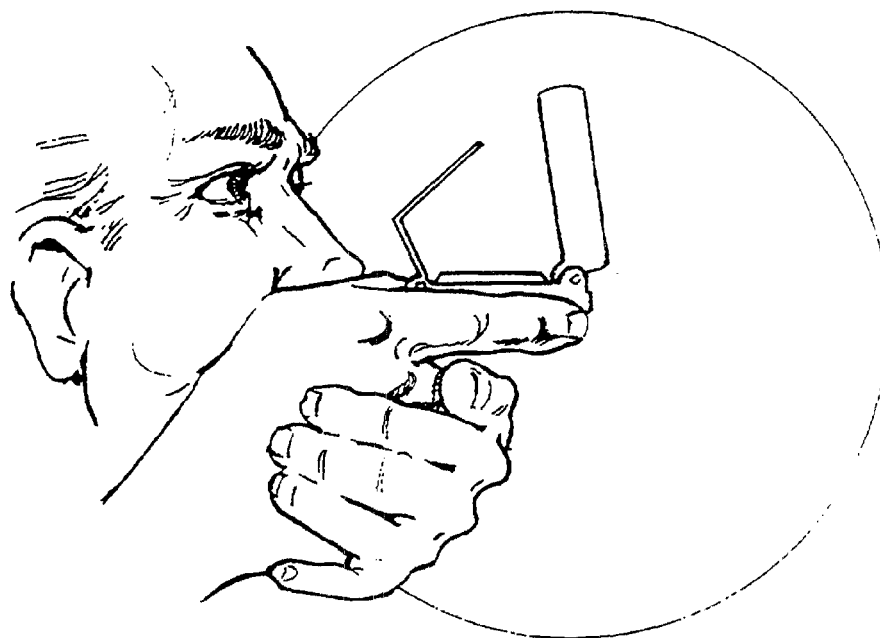

Figure C-3. Compass-to-Cheek Technique
b. Using the Compass-to-Cheek Technique. Fold the cover of the compass containing the sighting wire to a vertical position; then fold the rear sight slightly forward. Look through the rear-sight slot and align the front-sight hairline with the desired object in the distance. Then glance down at the dial through the eye lens to read the azimuth (Figure C-3).